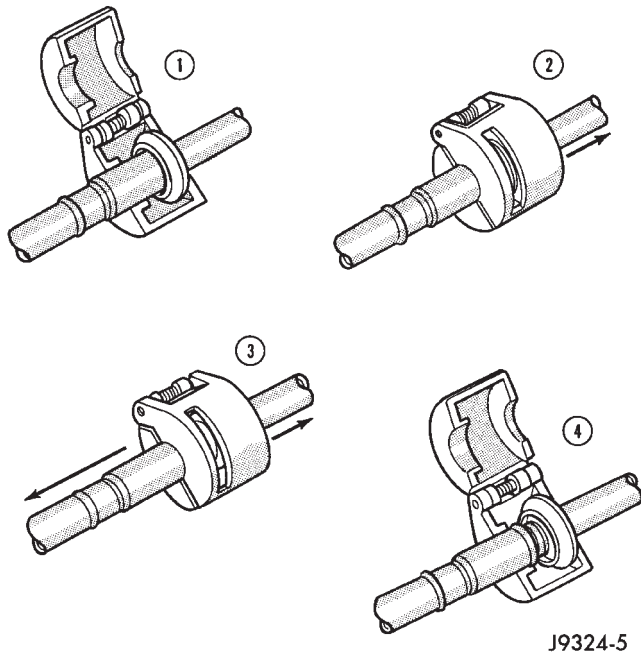

Fig. 14 Refrigerant Line Spring-Lock Coupler Disconnect
(1) Recover the refrigerant from the refrigerant system. See Refrigerant Recovery in the Service Procedures section of this group.
(2) Remove the secondary clip from the spring-lock coupler.
(3) Fit the proper size A/C line disconnect tool (Special Tool Kit 7193) over the spring-lock coupler cage (Fig. 14).
(4) Close the two halves of the A/C line disconnect tool around the spring-lock coupler.
(5) Push the A/C line disconnect tool into the open side of the coupler cage to expand the garter spring. Once the garter spring is expanded and while still pushing the disconnect tool into the open side of the coupler cage, pull on the refrigerant line attached to the female half of the coupler fitting until the flange on the female fitting is separated from the garter spring and cage on the male fitting within the disconnect tool.